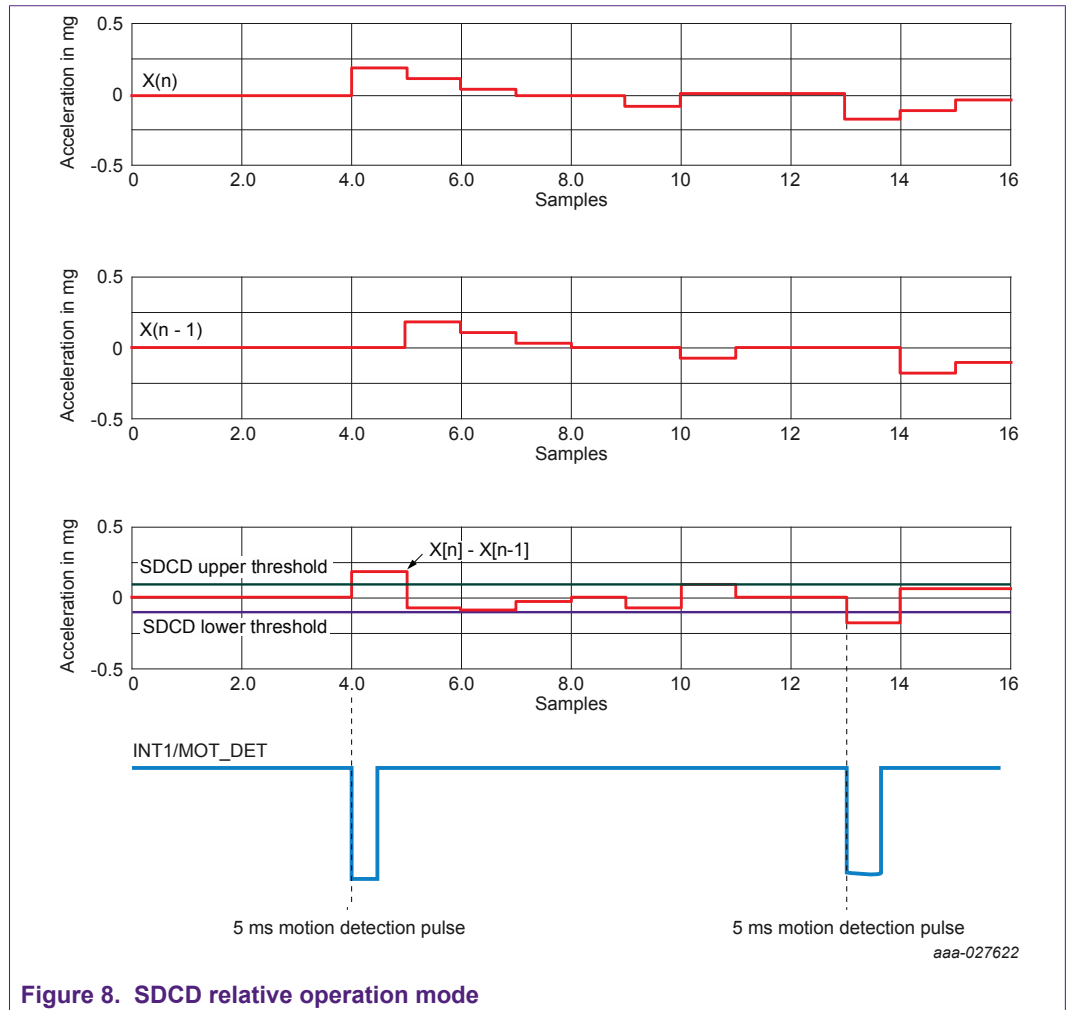

Figure 8. SDCD relative operation mode
- 0b10: The function updates the SDCD\_REF\_X/Y/Z values with the current decimated and trimmed X/Y/Z acceleration input data after the function evaluation. This allows for acceleration slope detection with Data(n) to Data(n-1) to be used as the input to the window comparator. Figure 8 shows the SDCD block usage in relative mode.